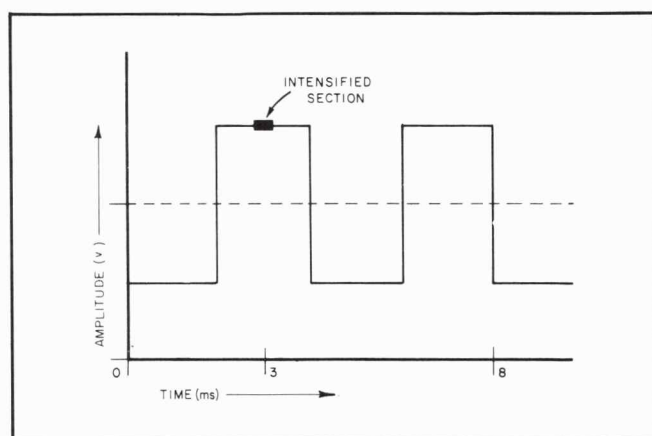

Figure 3-3. Intensified Waveform.
e. Adjust the 3310A output level, and the oscilloscope trigger and intensity levels to obtain a waveform as illustrated in Figure 3-3.